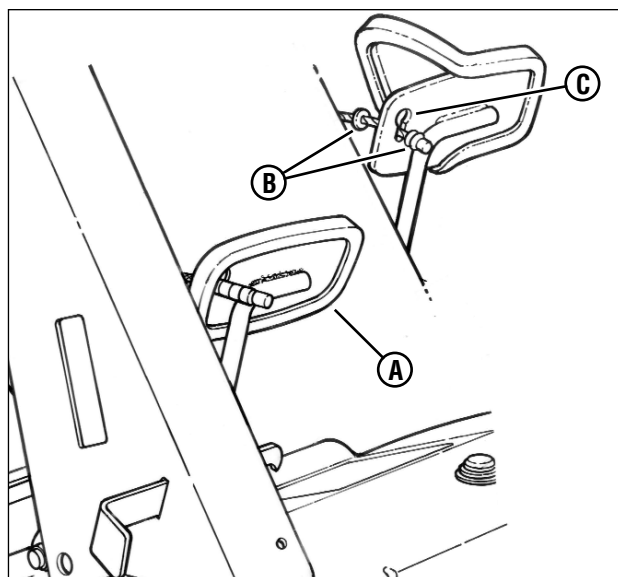

Figure 38: Clutch/brake cable adjustment
5. When belt adjustment is complete, it will be necessary to check Clutch/Brake Cable slack. Disengage the parking brake and allow the pedal (**A**, **Figure 38**) to remain in the engaged wheel drive (Up) position. The clutch/brake cable should have approximately 3/16" of slack. If the cable does not have slack adjustment of cable must be performed: